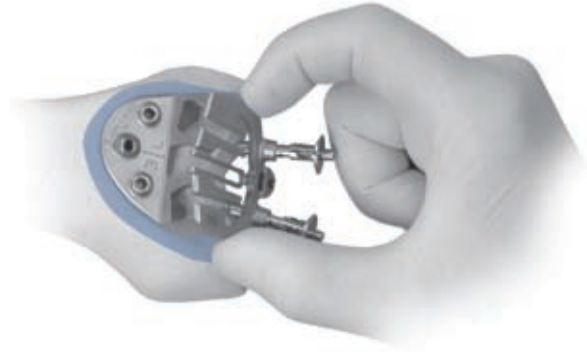

Fig. 25
Correct and incorrect set/sizing position (Fig. 25).
- Anterior flange should cover anterior cut without overhang. A small amount of underhang/clearance is acceptable (Fig. 25).